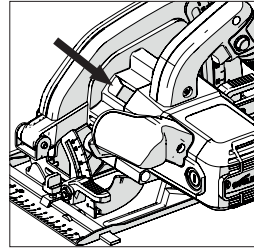

Fig. 3
- Locate the machines arbor lock button (which is similarly positioned on all machines). Lock the machines arbor by operating the arbor lock button. **(Fig. 3).**